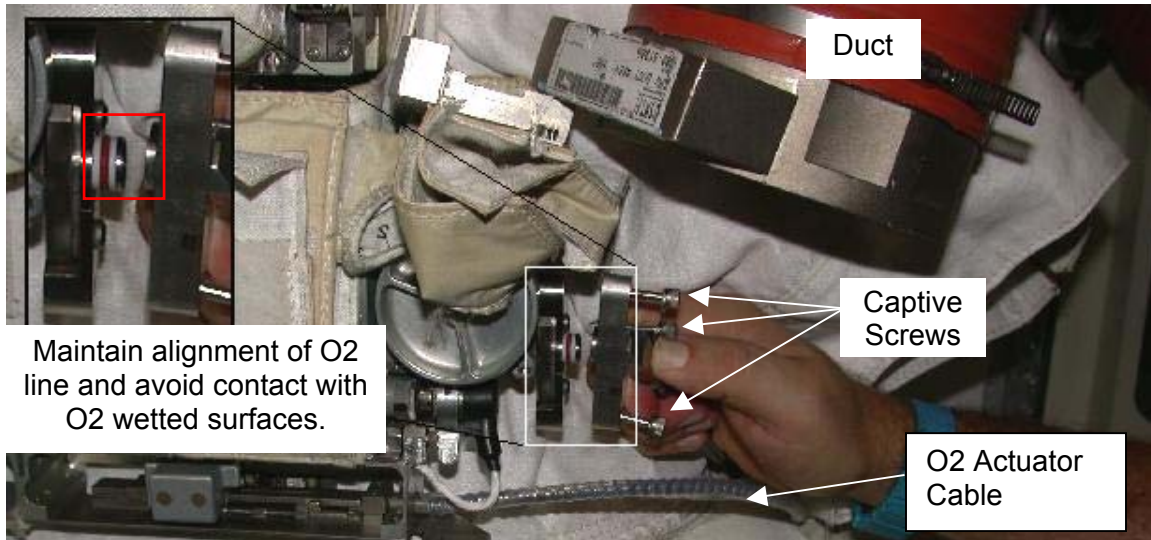

Figure 3.- O2 Line Installation.
1. Maintain alignment of O2 line during installation to avoid damage to the bore on the PLSS side and the O-seal on the DCM side. Refer to Figure 3.
7. Install O2 line onto DCM mounting plate. Hand tighten captive screws (three). Refer to Figure 3.